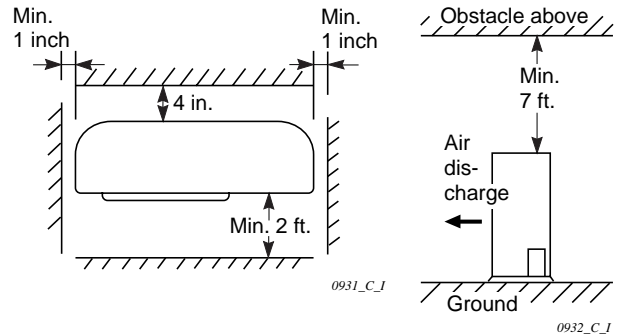

Fig. 2-2
- allow enough room around the unit for air intake/exhaust and possible maintenance. (Fig. 2-2)